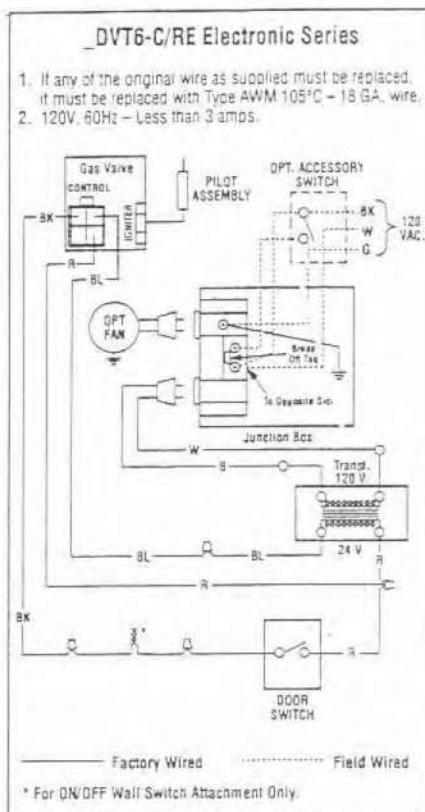
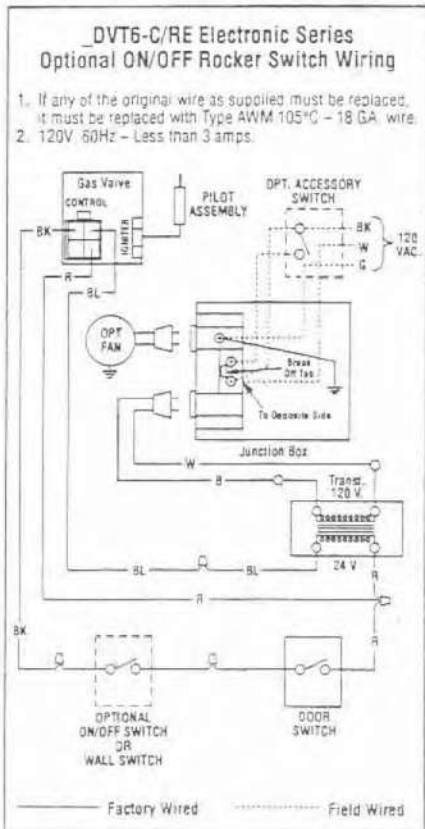

Figure 34
Figure 35
Step 7. Field Wiring Electronic Appliances—Regardless of whether an optional forced air blower kit (Figure 34) is to be installed now or sometime in the future, the appliance must be connected to the main power supply. To install, route a 3-wire 120V 60Hz power supply to the appliance junction box (located in the lower left side of the appliance) and ground. Also, at this time you may wish to locate and install an optional low voltage (24V) wall switch (Figure 35) in the desired location, connect the low voltage wire to this switch. For blower wiring, refer to the installation instructions provided with the forced air kit and the following paragraphs.
Note: The optional rocker switch is mounted to the appliance and wired in the same way as the remote wall switch (Figure 35).